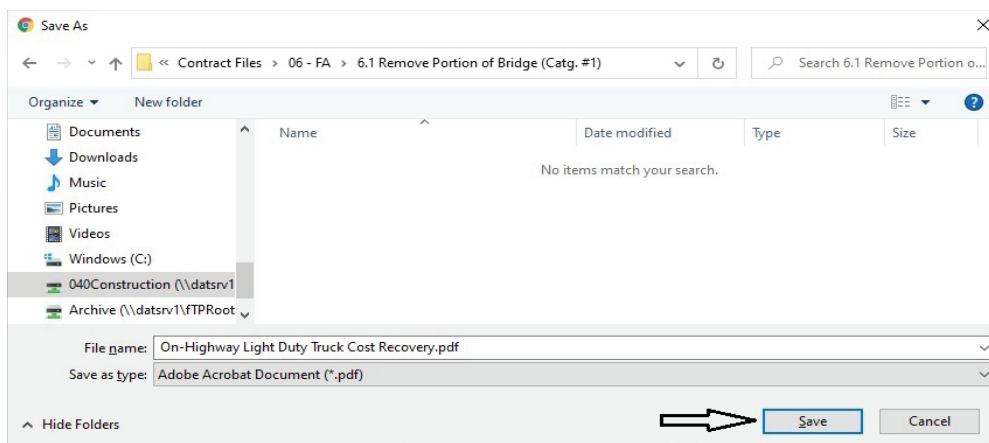

Figure 4-20: Save As Window
- vii. Print the report to a PDF file, following the browser print options, and save to the EDOC Contract Files\Contract Files\06 - FA\6.# [Name of the Force Account] directory and click on the Save button (Figure 4-20).